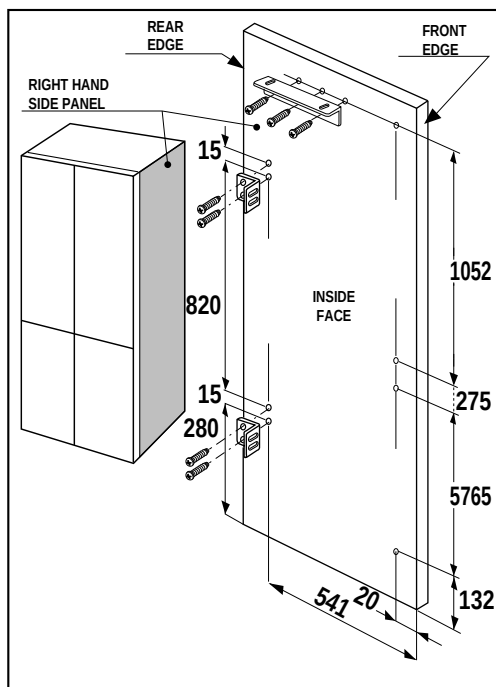

Fig. 3
- Fit the brackets onto the panels in the positions shown in the diagram (Fig. 3). The dimension of 132 mm is allowed for fitting a 100 mm plinth below the panel. For different plinth sizes, reduce or increase the dimension of 132 mm accordingly.